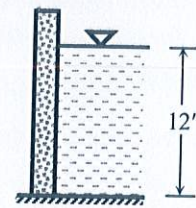

Fig. 5
9. Fig. 5 shows the side elevation of a RC wall supporting 12' high water.